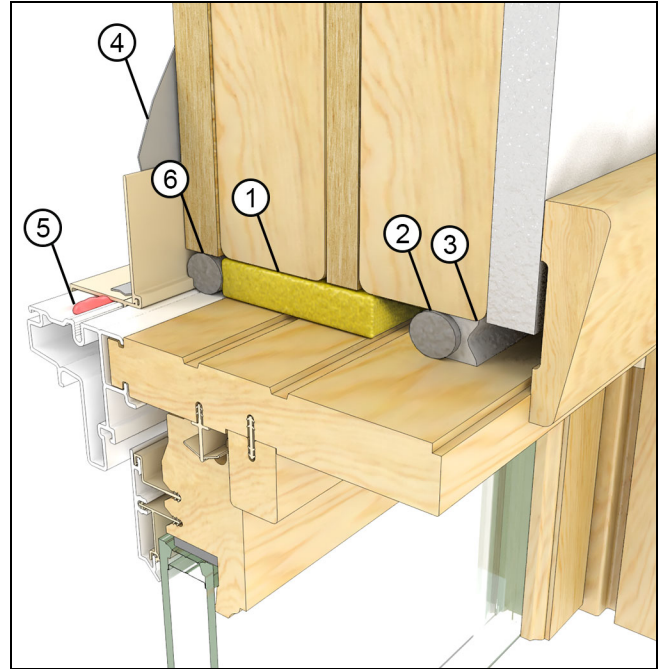

Figure 23
2. Low Expansion Foam. Install a backer rod at the exterior plane of the RO. Apply a low expansion/low compression closed cell foam in the cavity. Install a backer rod and sealant at the interior plane of the RO to create a continuous air seal. See Figure 23.